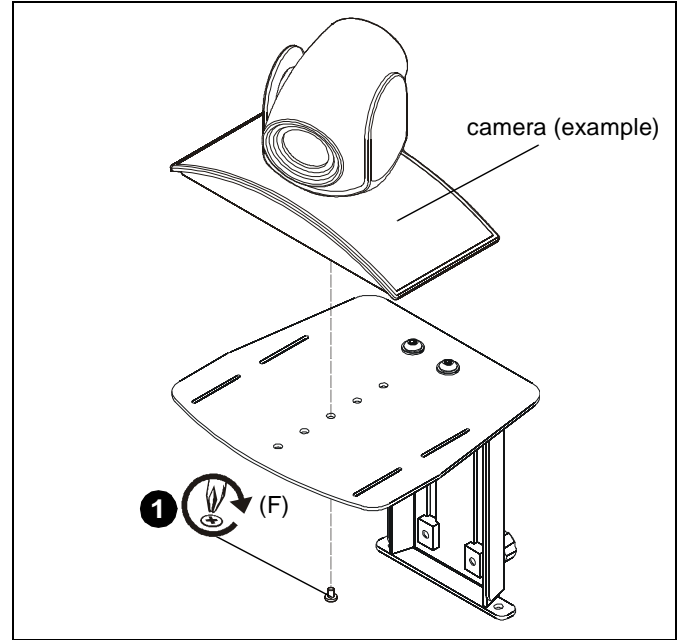

Figure 5
1. Install 1/4-20 x 3/8" Phillips pan machine screw (F) through holes on shelf and into hole on bottom of camera. (See Figure 5)